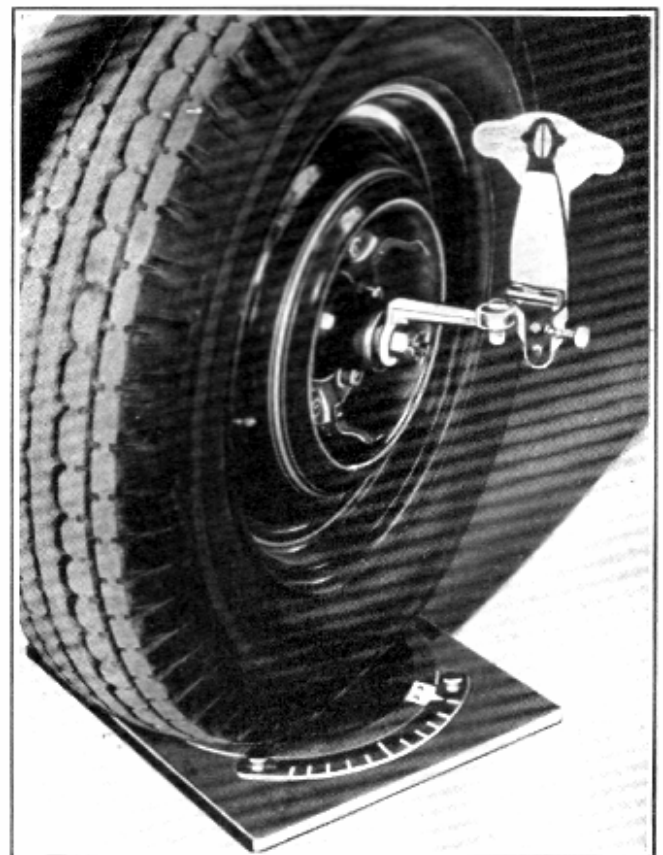

Fig. 39—Checking Kingpin Caster
2. Turn the wheel on which the check is being made OUT 25°, center the bubble on the gauge and note the reading on the caster scale, Fig. 39.